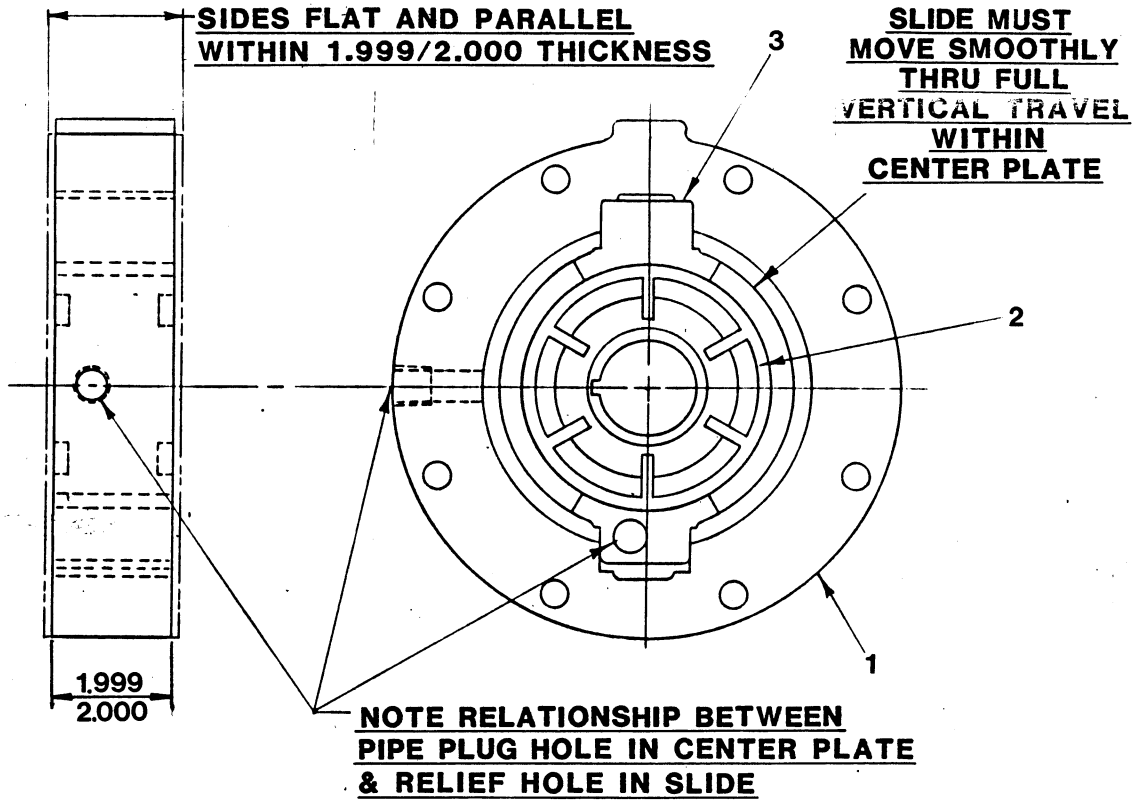

Figure 3. Group Grind 42212-016
Disconnect the air release valve discharge tube assembly (31) from the center plate (1, Figure 3). Disconnect the return assembly (32) from the suction flange (15).